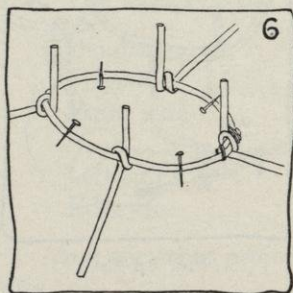

FIG. 6.
- h.* Attach front brace wire at exactly the front mark (see Figure 6).
- j.* Attach a brace wire first at direct sides, and then at side fronts and side back, as the marks indicate (see Figure 6).